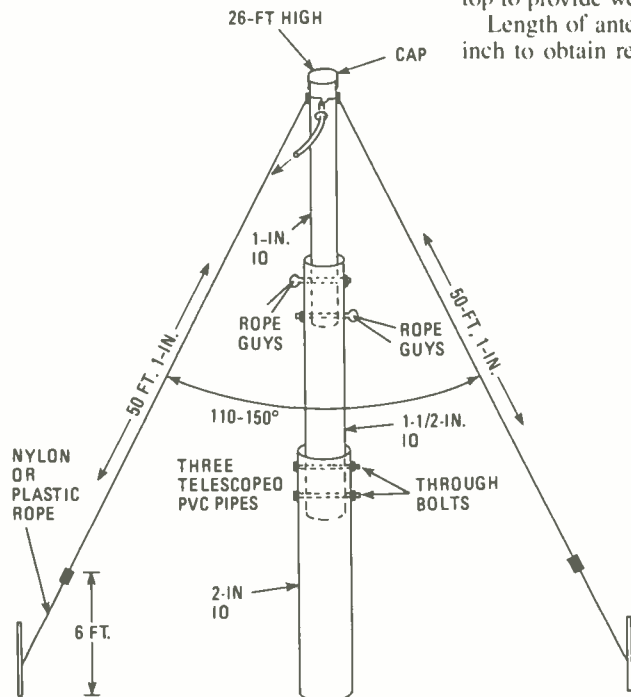

Fig. 1—Three-section PVC mast and inverted long-wire antenna for 20 meters.
□ THE INVERTED LONG-WIRE IS AN EASY-to-erect long-wire antenna. At the usual antenna mounting heights, such a long-wire antenna displays some gain from its two ends at low-radiation angles that are favorable for DXing (Fig. 1). The inverted long-wire is center-fed. Antenna leg lengths are such that a low impedance is seen by the transmission line. That condition is met by making each antenna leg an odd multiple of a  $\frac{1}{4}$ -wavelength. An example was given in the previous column for a 15- to 40-meter antenna that had  $\frac{3}{4}$ -wavelength legs on 15 meters. The inverted long-wire antenna described here operates as a dipole on 80 meters,  $\frac{3}{2}$ -wavelengths on 20 meters,  $\frac{5}{2}$ -wavelength on 15 meters, and  $\frac{7}{2}$ -wavelength on 10 meters.
The basic cut (leg lengths) was made for operation as a  $\frac{3}{2}$ -wavelength antenna on 20 meters. Short add-ons were then used to tune the antenna for other bands. In our example, the antenna mast was 26-foot high and was constructed of three telescoping sections of PVC piping, as shown in Fig. 1. Inner diameters of the piping from top to bottom were 1 inch,  $1\frac{1}{2}$
Pin-out and basic circuit of the dual AND driver version are given in Fig. 1. Each of the dual sections consists of a NAND gate and a follow-up bipolar transistor output. Check out the logic of the AND driver with the appropriate logic chart in Table 1 and Fig. 1. There is no direct pin-out for the output of the NAND gate. The Y output of the NAND gate (Fig. 1) is connected internally to the base of the bipolar transistor. The following bipolar transistor results in a logic inversion. Therefore, the output has a logic corresponding to that which would be obtained from an overall AND gate. Treating the UDN-3611M chip as a black box with one output, it appears to be an AND logic device. The AND operation is the result of
Fig. 1—The UDN-3611M dual gate/power driver is shown schematically (A) within the physical outline of its DIP configuration. A simplified diagram (B) of one driver section is shown. Point Y is not electrically connected to one of the output pins. It is identified for circuit discussion in text.